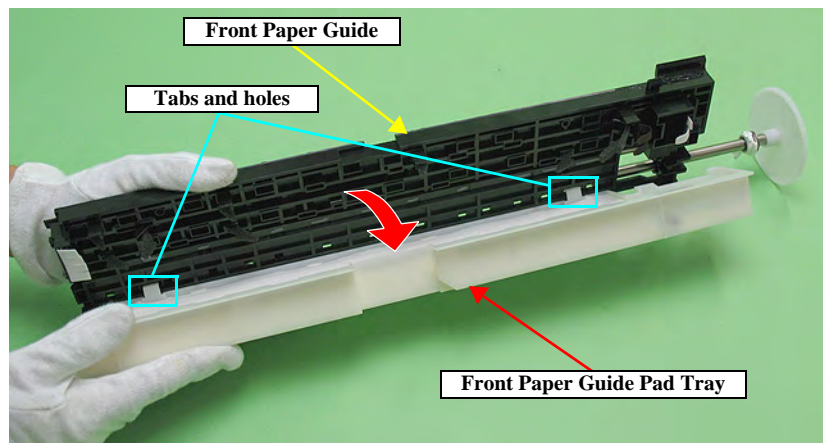

Figure 4-125. Removing the Front Paper Guide Pad Tray
- Engage the two tabs of the Front Paper Guide Pad Tray with the holes of the Front Paper Guide as shown in Figure 4-125.